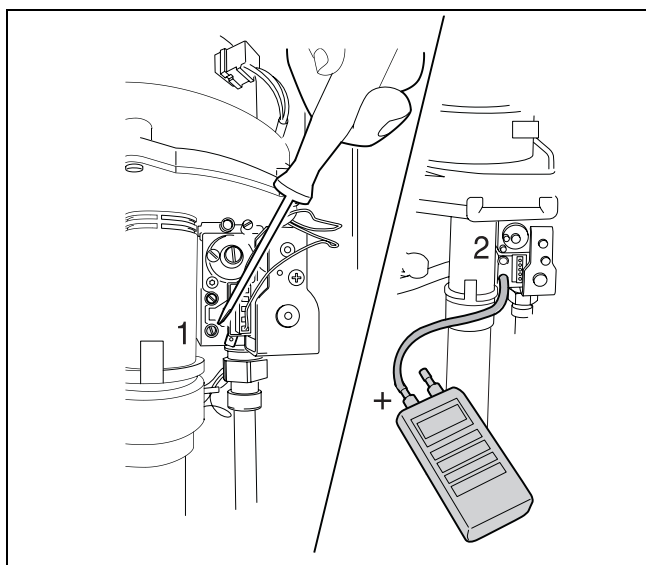

fig. 43 Measuring the gas-supply pressure
- Attach a tube from the pressure gauge to the gas test nipple (the lower one, see fig. 43, item 2).